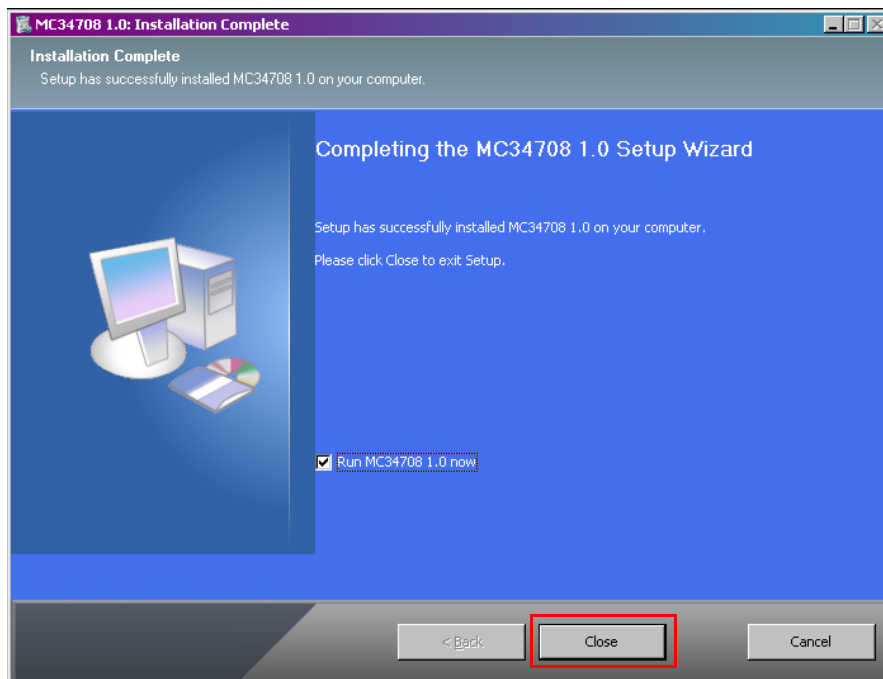

Figure 11. Installation Complete
6. Following the correct installation of the GUI and device drivers, the KIT34708VMEVBE board is ready to send and receive commands to the MC34708 Installer.exe application through the KITUSBCOMDGLVME board. To finish the installation process, click the **Close** button (Figure 11).